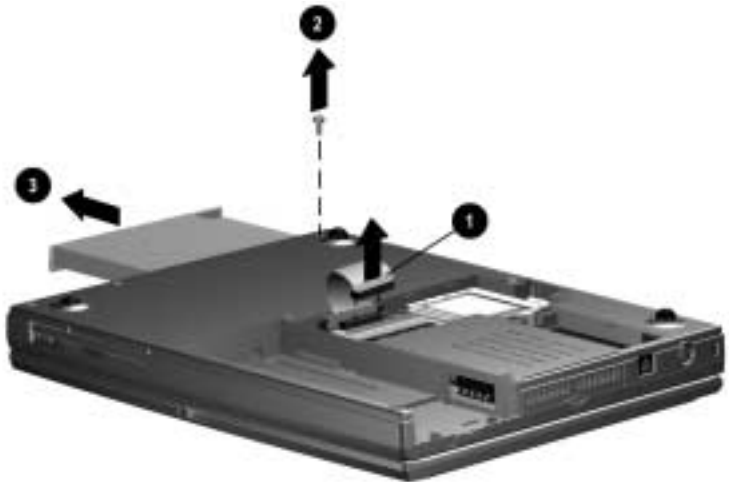

Figure 5-8. Removing the CD-ROM Drive
3. Disconnect the CD-ROM drive cable from the system board **1** (Figure 5-8).